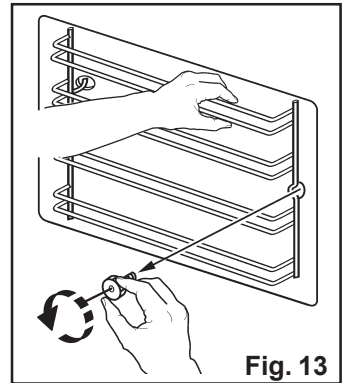

Fig. 13
1. remove the front screw while keeping the shelf support in position with the other hand (Fig. 13);